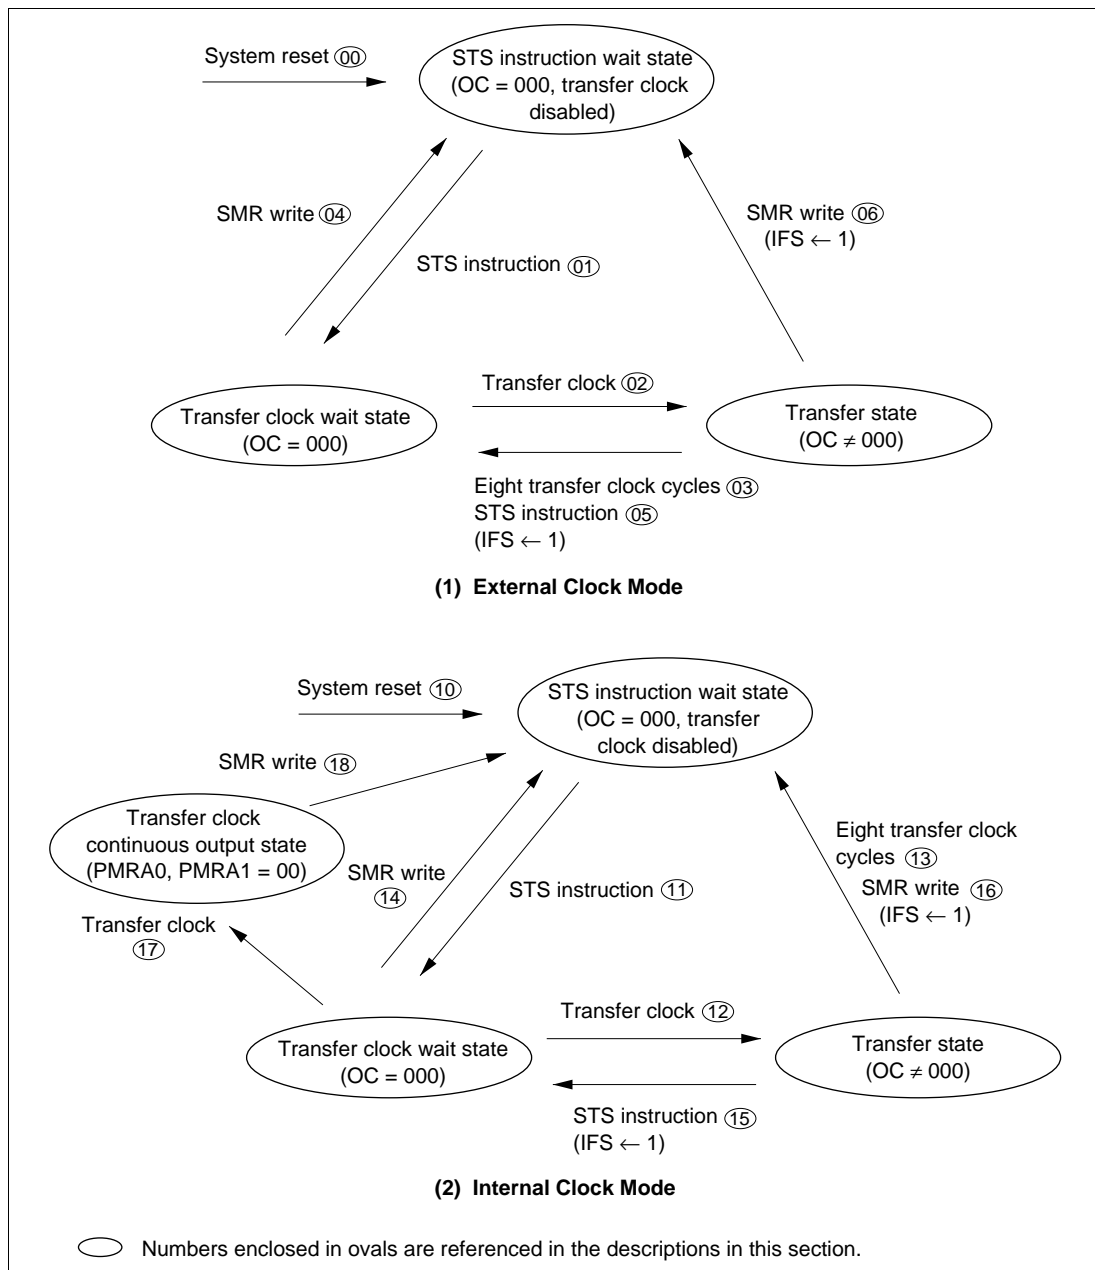

Figure 20-4 Serial Interface State Transition Diagram
Figure 20-4 shows the state transition diagram for the serial interface.
(1) STS Instruction Wait State: The serial interface enters the STS instruction wait state on a system reset (items 00 and 10 in figure 20-4).